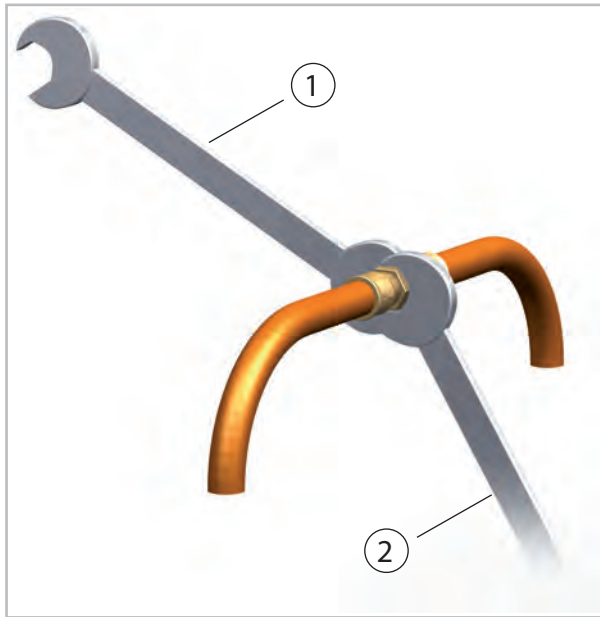

Fig. 34: Tightening the fitting
11. ➤ Then tighten the fittings with 2 appropriately-sized open-ended spanners. Use a spanner to counter the force when tightening the fitting (Fig. 34).